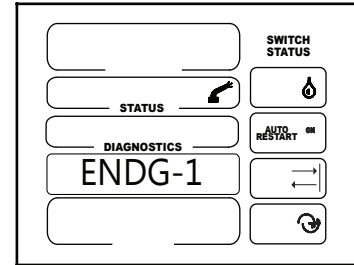

Figure 14-1
1. The screen illustrated in figure 14-1 signifies that end gun sector 1 is not programmed. If the voltage screen is empty, then no settings have been set for the indicated end gun sector.